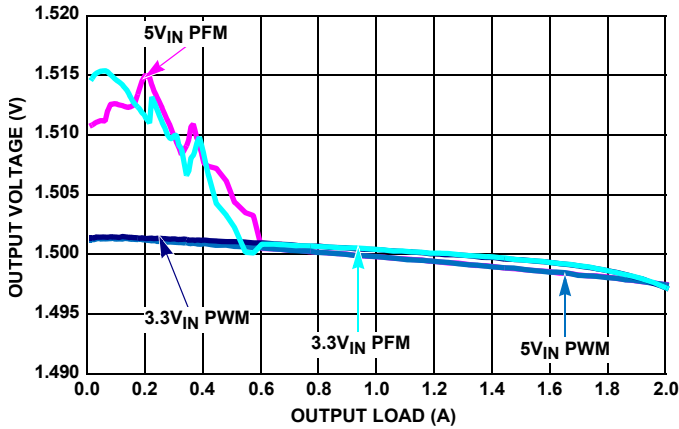

FIGURE 10. V_{OUT} REGULATION vs LOAD, $f_{SW} = 2\text{MHz}$, $V_{OUT} = 1.5\text{V}$, $T_A = +25^\circ\text{C}$
- Not tested in production. Characterized using evaluation board. Refer to Figures 10 through 12 load regulation diagrams. $T_A +105^\circ\text{C}$ represents near worst case operating point.